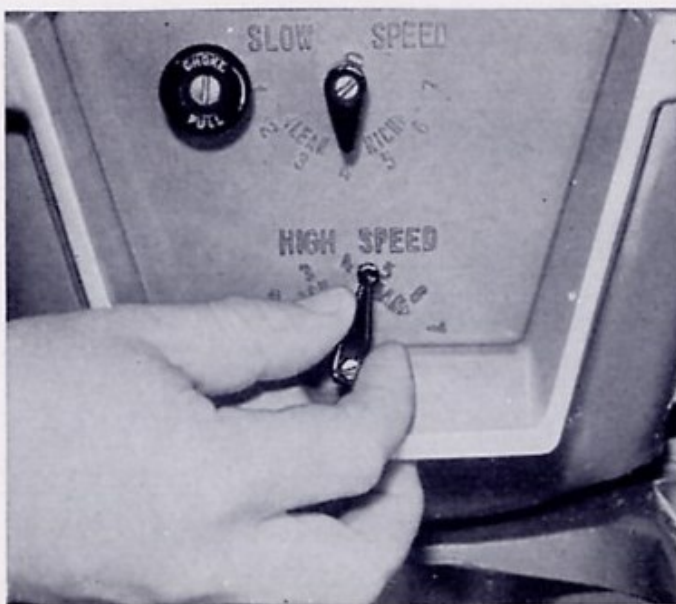

Figure 13
8. When in “forward” turn speed control grip toward position “fast” to gain speed, adjust high speed needle lever (Fig. 13) in fast position by turning to right or left as required.
(Must be performed only after final slow speed adjustment has been made.) Start motor as instructed—run at “fast” speed until normal operating temperature has been reached. Hold throttle at fast speed and turn lever to left or right as required to obtain best setting for top speed performance. Rearrange lever as described above to position Number 4 on panel—see Fig. 13.